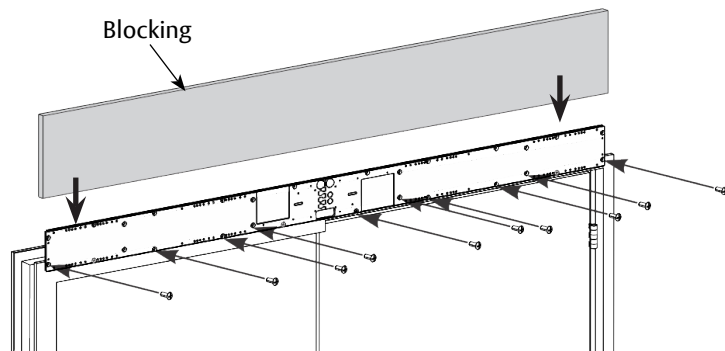

Figure 7
- Secure backplates to frame using eleven (11): 1/4-20 x 5/8" machine screws or 1/4 x 1-1/2" self-drilling screws from screw packs in Boxes 1 and 2 (Figure 7).
NOTE: It is important to properly secure top edge of backplate. Use of blocking (supplied by others) or shims (provided) to fill gap between backplate and wall above header is **HIGHLY** recommended. Material must comply with local codes. Failure to properly secure top of backplate could result in operator being allowed to 'rock' during operation. This could result in damage to operator and diminish operator function. (Figure 7)